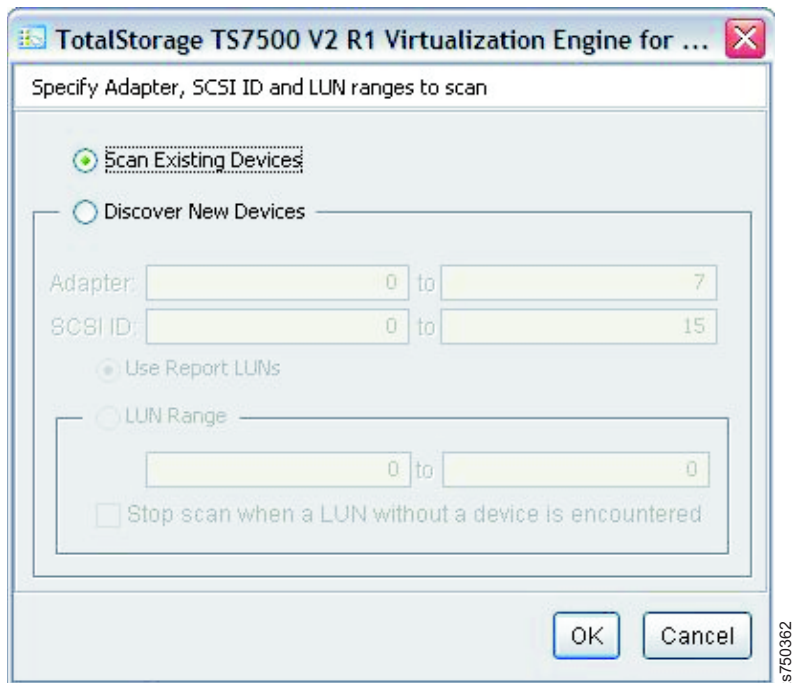

Figure 23. Scan existing devices
- In the **Specify Adapter, SCSI ID and LUN ranges to scan** window (Figure 23 on page 35):